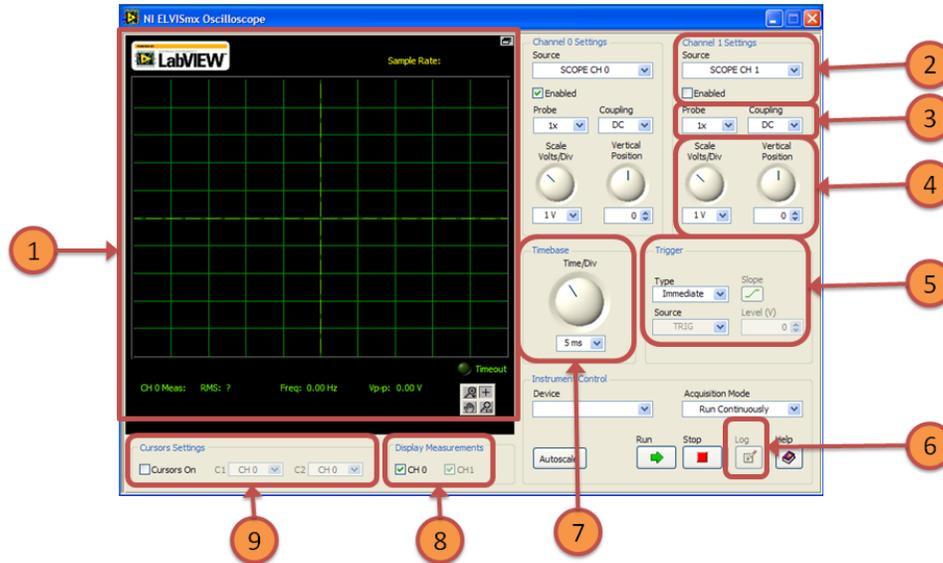

Figure 6. DMM SFP with important controls labeled
The oscilloscope is a device that displays signal voltages as a two-dimensional graph of electrical potential differences (vertical axis) plotted as a function of time (horizontal axis). Though time-invariant (DC) voltages can be displayed, this device is commonly used to display time-varying voltage signals. The NI ELVISmx Oscilloscope consists of two channels, Channel 0 and Channel 1, which can automatically connect to up to ten (10) sources. Shown below is the Scope SFP in Figure 6, as well as an explanation of the important controls.
5. Trigger: This oscilloscope features triggered sweeps. A triggered sweep starts (begins data acquisition) at a selected point on a *trigger* signal, providing a stable display. The scope has three settings: *Immediate*, in which there is no external trigger signal and the data acquisition begins immediately; *Digital*, in which acquisition begins on the rising edge or fall edge (*Slope* setting) of an external digital signal; *Edge*, in which data acquisition begins when an internal or external signal crosses a specified threshold (*Level (V)* setting). For the *Digital* setting, the trigger signal source is the TRIG BNC input channel (see feature 4 in Table 1). For the *Edge* setting, the choices of signal sources are the Chan 0, Chan 1 or the TRIG BNC input channel.